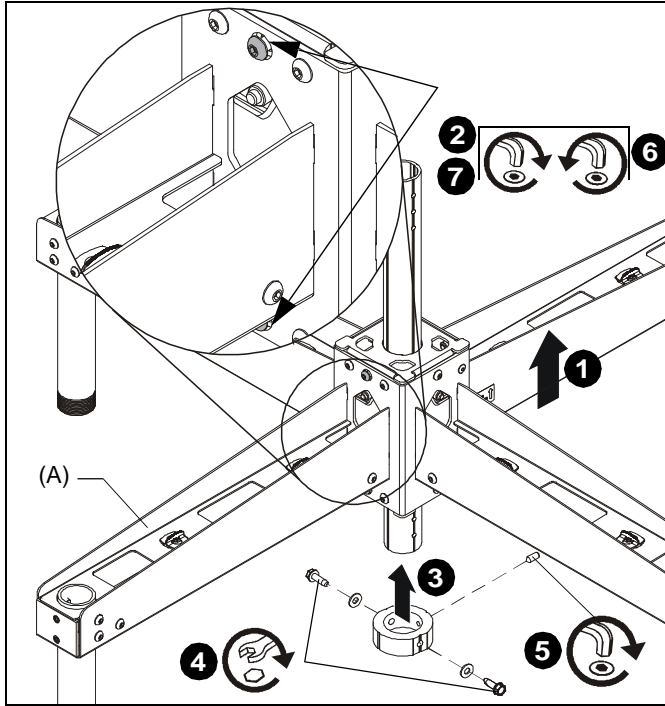

Figure 3
1. Slide quad ceiling accessory (A) up from below onto installed column (not included). (See Figure 3)
2. Tighten two existing 5/16" x 1-1/2" button head cap screws in center of quad ceiling accessory. (See Figure 3)
5. Install and tighten 5/16" x 3/4" set screw into bottom stop collar. (See Figure 3)
6. Loosen two button head screws tightened in Step 2, and slide accessory down extension column until it rests on the bottom stop collar. (See Figure 3)
7. Tighten two button head cap screws (loosened in Step 6) in center of quad ceiling accessory. (See Figure 3)